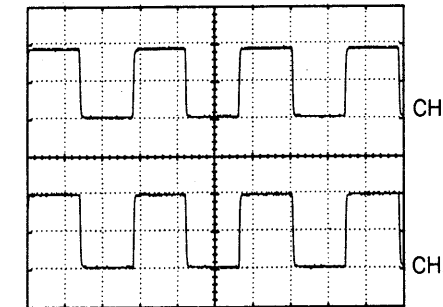

Fig.7 (図7)
- Check whether the waveform of Fig.7 is output when you touch the probe to the measuring device. (see Fig.7)